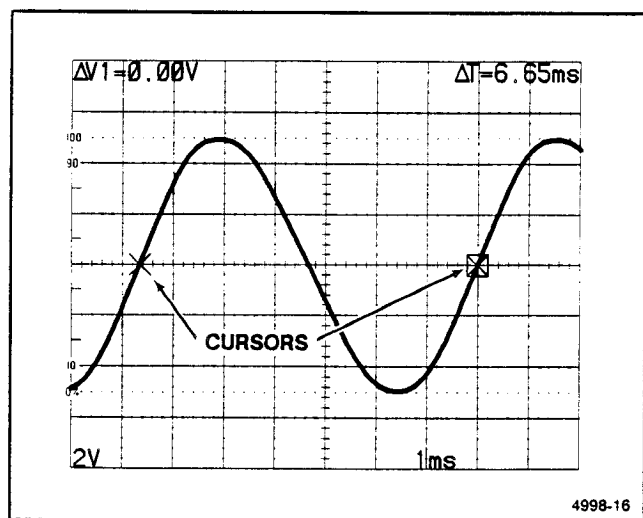

Figure 6-14. Time duration, cursor method.
4. Set the SEC/DIV switch to display one complete period of the waveform to be measured (see Figure 6-14).